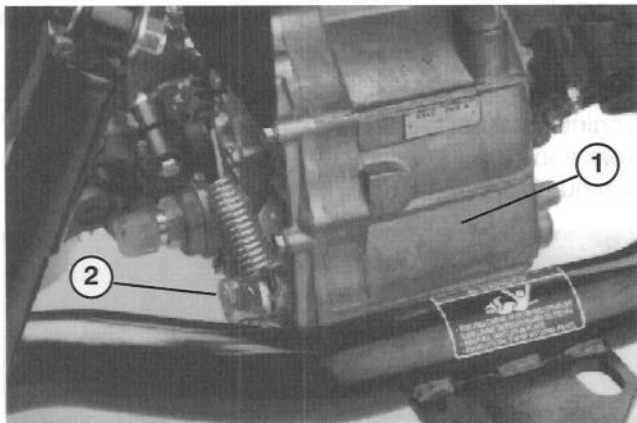

Figure 45
CHANGING TRANSAXLE / HYDRAULIC FLUID (Fig. 45)
2. Remove drain plug (Fig. 45) from side of reservoir and let hydraulic fluid flow into drain pan.